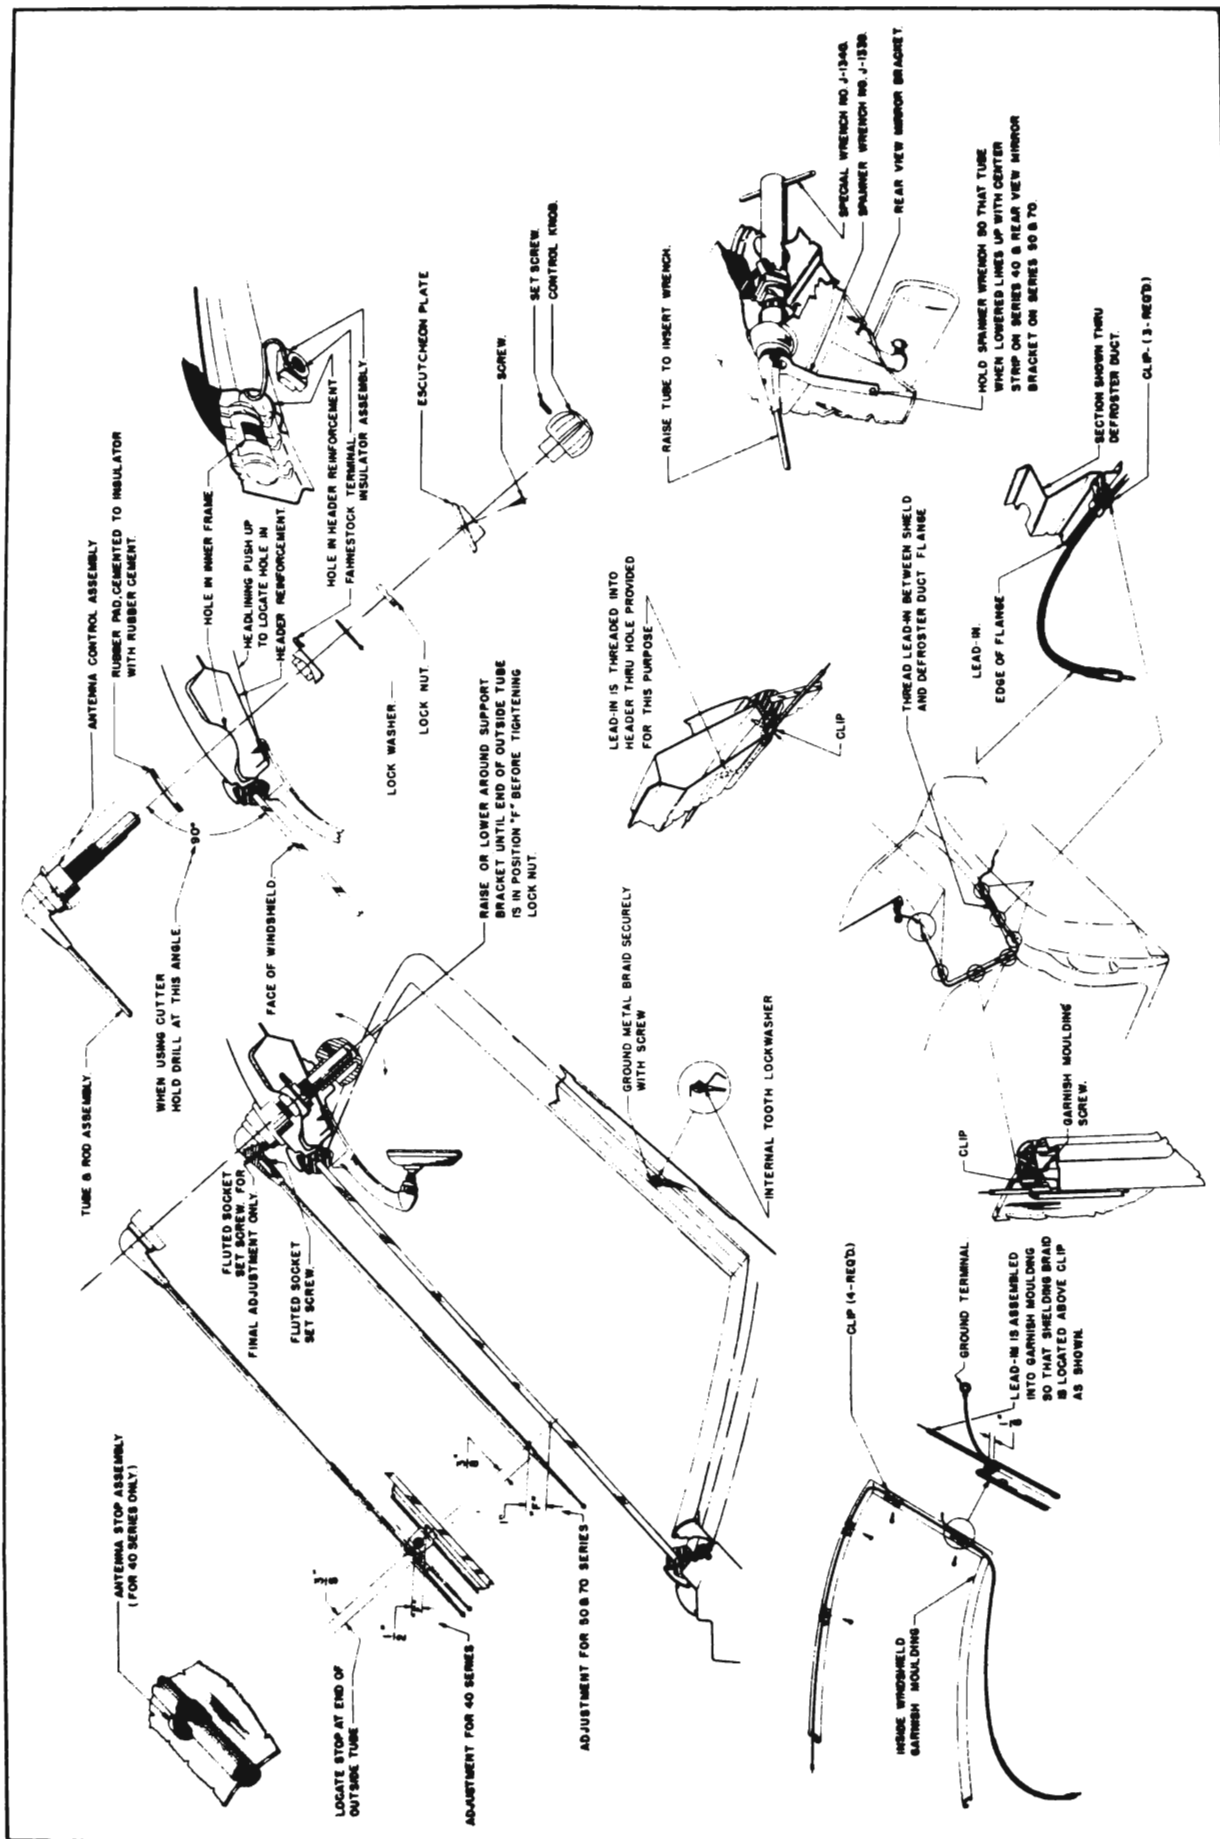

Figure 11-11—Antenna Installation Details—Closed Bodies
6. Use the  $\frac{1}{8}$ " hole to pilot a  $1\frac{1}{8}$ " circular cutter and cut hole through roof panel while holding cutter at  $90^\circ$  to windshield glass. See figure 11-11. Remove masking tape from roof panel.
8. With shielding braid located above the lower right clip, attach cable ground terminal to body pillar where a screw hole is provided. Be sure to clean paint from pillar at this point and attach the terminal with a 10-32 x  $\frac{5}{16}$ " tapping screw, with internal-tooth lockwasher placed between terminal and pillar. See figure 11-11.
10. Remove glove box and attach lead-in cable to flange of defroster duct, using three clips. See figure 11-11. *Make certain that cable does not contact windshield drive cables, then reinstall glove box.*
11. If antenna tube and rod assembly is not assembled to the antenna control assembly, remove fluted socket set screw from control, insert tube so that the hole in tube aligns with screw hole in control then install and tighten set screw securely. Make sure that rubber pad is securely cemented to control insulator with rubber cement. See figure 11-11.
12. Insert bare end of lead-in wire into the Fahnestock terminal on the hard rubber insulator. Push the slack wire up into the hole, insert insulator up through the hole in the header reinforcement, and locate in the square hole of inner frame. The Fahnestock terminal must be located in the upper *left* corner. See figure 11-11.
14. Place tube in the "down" position and raise or lower the inside of the antenna control assembly until the end of the outside tube is  $\frac{1}{2}$ " from top of windshield division molding on *Series 40*, or 1" from windshield glass on *Series 50-70*. See figure 11-11.
15. Using special Spanner Wrench J 1339 the man on outside must hold the antenna body so that the tube, when lowered, will align with the windshield division molding on *Series 40*, or rear view mirror bracket on *Series 50-70*. Securely tighten the nut on inside, using special Wrench J 1340. See figure 11-11.
17. On *Series 40*, install antenna stop on windshield division molding in location shown in figure 11-11, and tighten screw evenly.